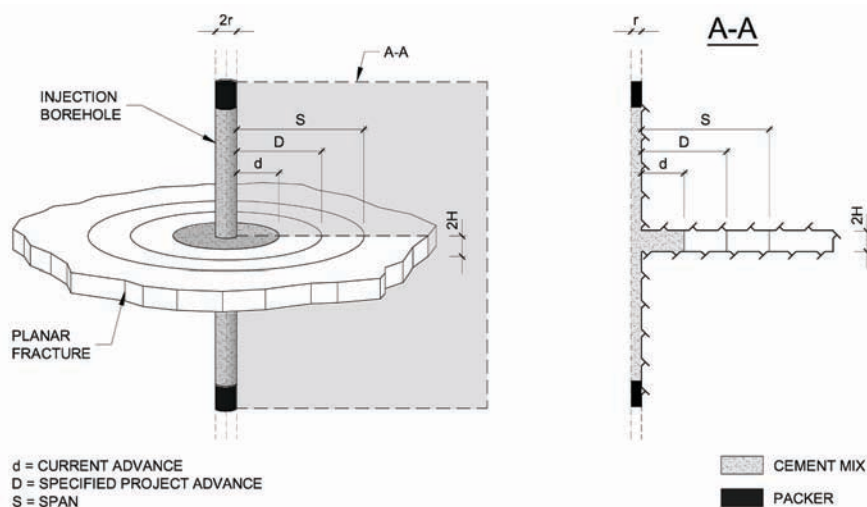

Figure 1. Schematic representation of a cement mix advance in a planar fracture.
**Figure 1** gives a schematic representation of grout advancement in a planar fracture. The mix rheology is defined in terms of viscosity  $\eta$  and yield stress  $c$ . The grout filled space is defined by the diameter of the injection hole  $2r$  and the fracture thickness  $2H$ . The current grout advance is denoted  $d$ . The specified advance  $D$  is the target to where the practitioner should drive the grout. The span  $S$  is the maximal distance that a grout may travel at a given excess pressure  $P$ . The span is calculated using the following equation